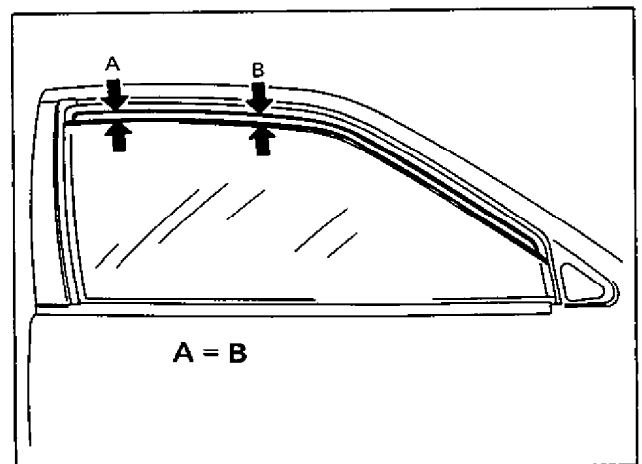

Fig. 9-8
- 2) Adjust equalizer of window regulator so that measurements A and B in Fig. 9-8 are equal to each other.